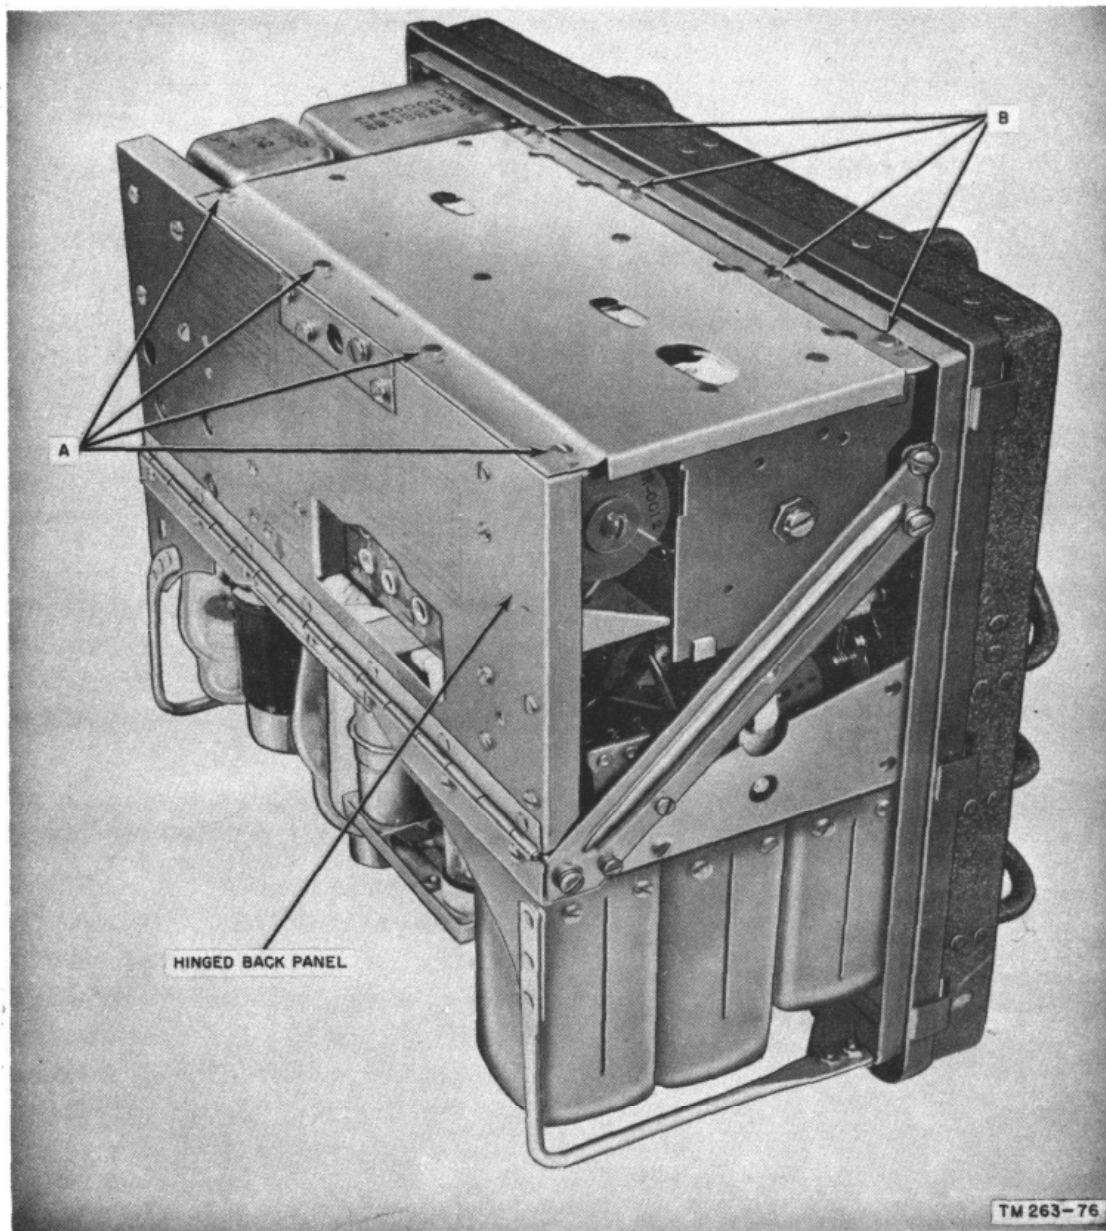

Figure 118. Location of screws A and B.
*b.* Remove all screws marked "B" on the bottom of the transmitter assembly (fig. 118) and remove the cover plate held on by these